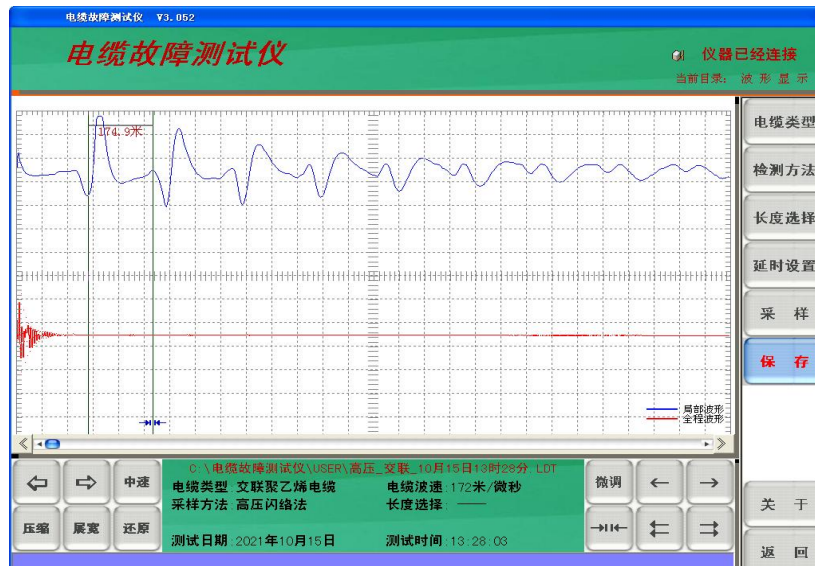

Fig 7-2
- (3) Connect according to the high-voltage flashover wiring diagram, and do not connect the 501A2(502) host first.
- (4) Adjust the volt value of the impulse discharge voltage of the high-voltage source, so that the impulse voltage forms a high-voltage breakdown discharge phenomenon on the fault point of the faulty cable. When the impact of high voltage makes the fault point fully discharge: the voltage indication of the high-voltage equipment instantly returns to zero; the current indication instantly increases.
- (5) Click "Sample" and wait for the "sampler" sampling feedback.
- (6) Use the "sampler" to connect the special "double Q line" with the "cable fault tester host", and move the "sampler" slowly parallel to the "sampling ground wire (capacitive ground)". (Usually within 10cm distance, the "sampler" can capture the reflected signal).
- (7) Adjust the "Amplitude Knob" and "Displacement Knob" so that the sampling waveform is fully and completely displayed in the real-time sampling area, as shown in Figure 7-2.